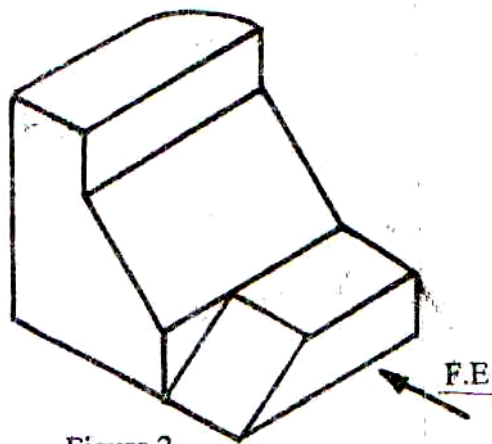

Figure 2
5. Figure 2 shows a pictorial view of a block.